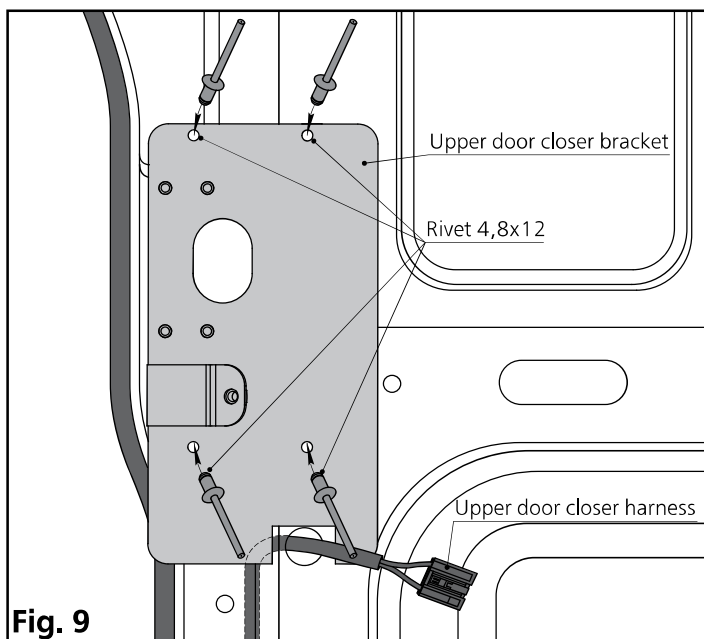

Fig. 9
1. Rivet the door closer bracket to the door opening post with M4.8x12 rivets (Fig. 9).
5. Pull the harness of the door closer of the upper body post through the technical hole Ø10 mm (Fig. 9) and make the connection (connection) of the pads (fig. on page 15).